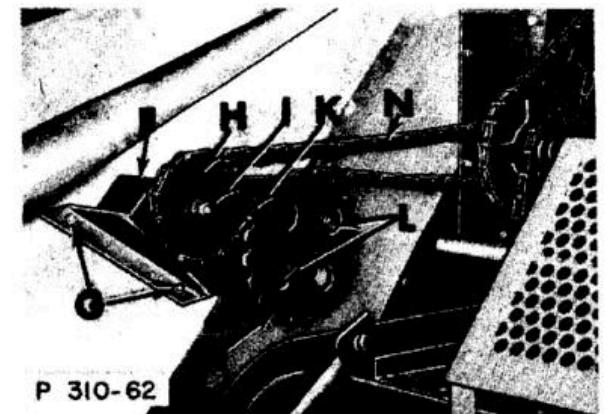

Figure 63
1. Insert 1/2 x 3" carriage bolt "I" (Fig. 63) through support assembly "F" followed with a 17/32" I.D. x 1-1/8" O.D. x 1/8" washer on bolt, 3/4" O.D. x 1-15/16" long bushing, 13 tooth sprocket assembly "H", another 17/32" I.D. x 1-1/8" O.D. x 1/8" washer, 1/2" lockwasher and nut.
2. Attach beater hub "J" (Fig. 62) to support assembly "F" (Fig. 63) using a 3/8 x 1" machine bolt at "K" (Fig. 63).
3. Now attach support assembly "F" (Fig. 63) to long galvanized roll using two 5/16 x 3/4" truss head machine screws "G", and two 3/8 x 1" machine bolts at "L". Tighten all bolts.
4. Slide 19 tooth sprocket "M" (Fig. 63) with hub to inside onto beater shaft and secure in place using a 5/16 x 2-1/4" drilled rivet and a 1/8 x 3/4" cotter pin.
6. Install 1-1/4" extended pitch drive chain "N" (Fig. 63) onto sprockets as shown. Align chain with sprockets using 1-1/32" I.D. x 1-5/8" O.D. x 1/16" washers between sprocket "M" and hub.